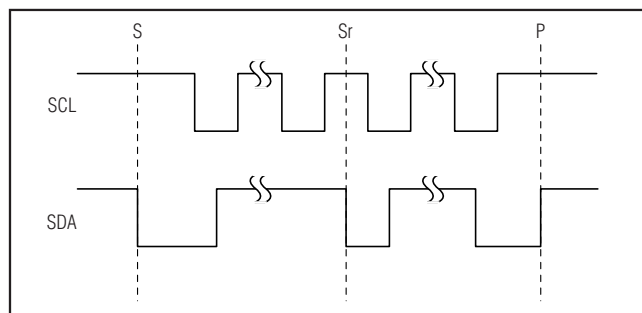

Figure 2. START, STOP, and REPEATED START Conditions
SDA and SCL idle high when the bus is not in use. A master device initiates communication by issuing a START (S) condition. A START condition is a high-to-low transition on SDA with SCL high. A STOP (P) condition is a low-to-high transition on SDA while SCL is high (Figure 2). A START condition from the master signals the beginning of transmission to the MAX9895A. The master terminates transmission and frees the bus by issuing a STOP condition. The bus remains active if a REPEATED START (Sr) condition is generated instead of a STOP condition.